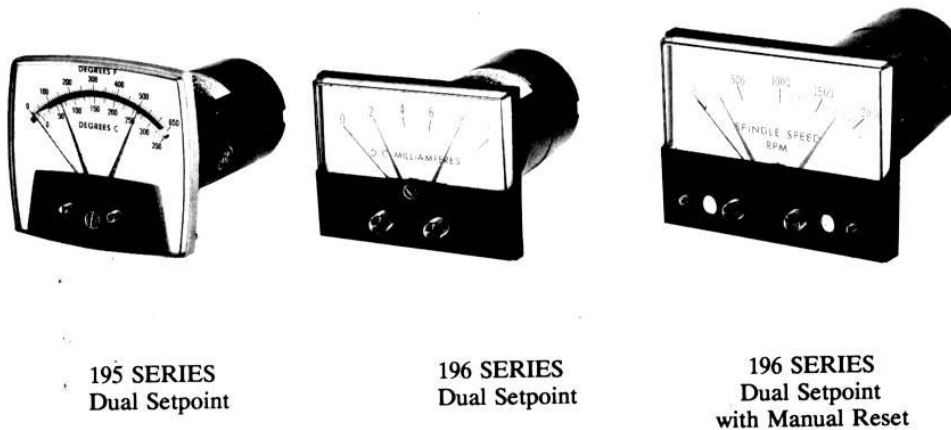

Fig. 1 - 195 and 196 SERIES METER RELAYS
**FRONT PANEL** - The 4½-inch size 196 Series Meter Relay can be supplied with build-in manual reset push buttons on the face of the instrument. The unit shown in Fig. 1 has a double setpoint; however, a single setpoint (high or low setpoint) can also be supplied. The manual reset provides an alarm light adjacent to the push button which illuminates when the setpoint is tripped. The alarm light is extinguished and the load relay is energized when the manual reset push button on the front panel is pressed and the indicating pointer is in a position to admit light to the sensor to provide the control action indicated in Table 1.